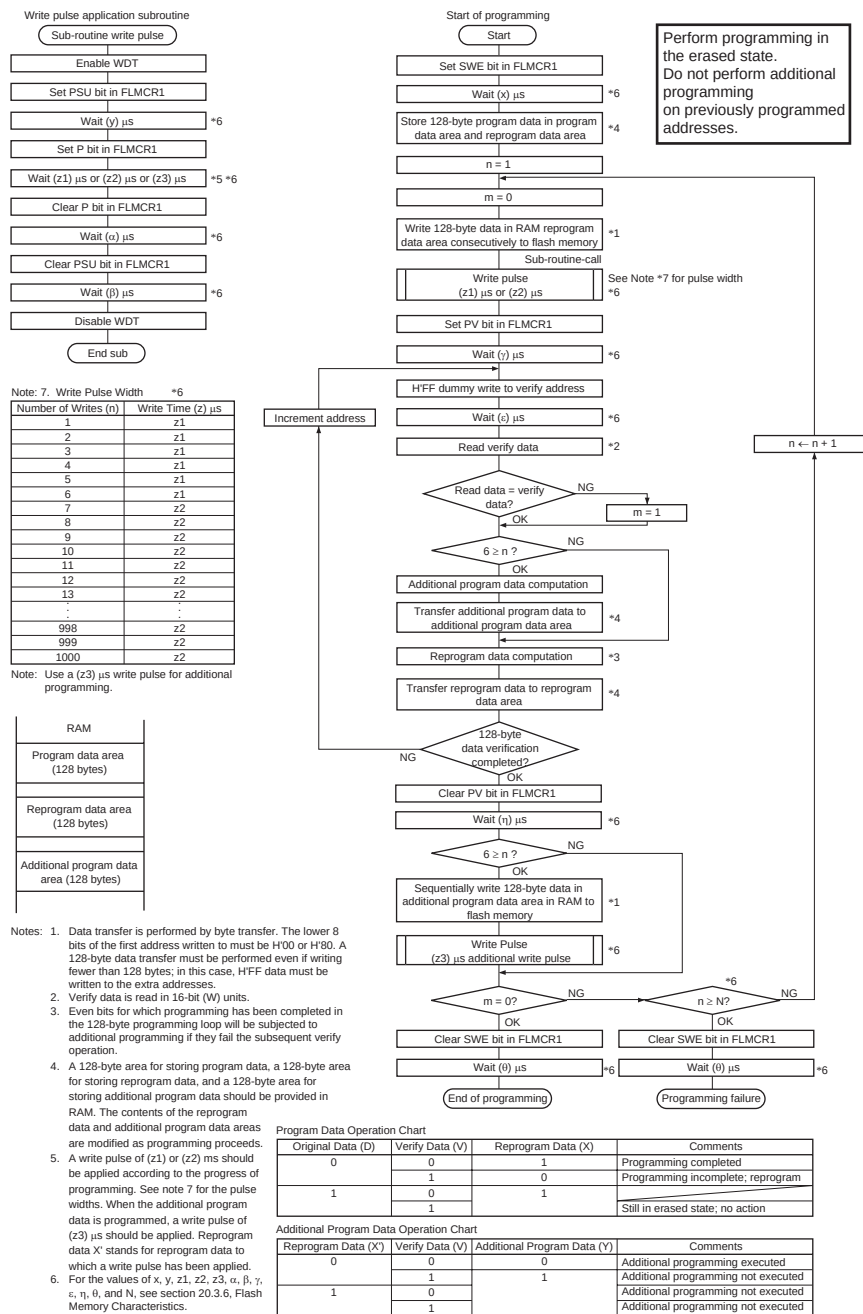

Figure 17.15 Program/Program-Verify Flowchart
Follow the procedure shown in the program/program-verify flowchart in figure 17.15 to write data or programs to flash memory. Performing program operations according to this flowchart will enable data or programs to be written to flash memory without subjecting the device to voltage stress or sacrificing program data reliability. Programming should be carried out 128 bytes at a time.
After the elapse of a given programming time, the programming mode is exited (the P bit in FLMCR1 is cleared to 0, then the PSU bit is cleared to 0 at least  $(\alpha) \mu\text{s}$  later). Next, the watchdog timer is cleared after the elapse of  $(\beta) \mu\text{s}$  or more, and the operating mode is switched to program-verify mode by setting the PV bit in FLMCR1. Before reading in program-verify mode, a dummy write of H'FF data should be made to the addresses to be read. The dummy write should be executed after the elapse of  $(\gamma) \mu\text{s}$  or more. When the flash memory is read in this state (verify data is read in 16-bit units), the data at the latched address is read. Wait at least  $(\varepsilon) \mu\text{s}$  after the dummy write before performing this read operation. Next, the originally written data is compared with the verify data, and reprogram data is computed (see figure 17.15) and transferred to the reprogram data area. After 128 bytes of data have been verified, exit program-verify mode, wait for at least  $(\eta) \mu\text{s}$ , then clear the SWE bit in FLMCR1 to 0, and wait again for at least  $(\theta) \mu\text{s}$ . If reprogramming is necessary, set program mode again, and repeat the program/program-verify sequence as before. However, ensure that the program/program-verify sequence is not repeated more than (N) times on the same bits.